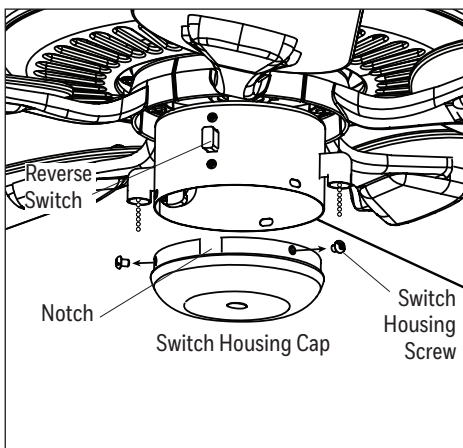

Figure 6.1
1. Remove the three switch housing screws from the top edge of the light kit. Then, attach the switch housing cap to the switch housing using the switch housing screws. **Note:** Align the notch in the switch housing cap with the reverse switch on the switch housing (Figure 6.1).